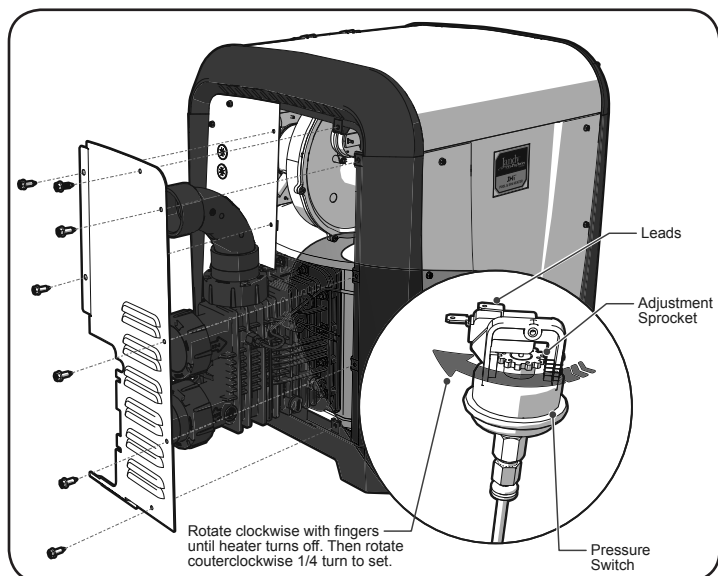

Figure 11. Water Pressure Switch Adjustment
- Remove the side panel to gain access to the water pressure switch. See *Figure 11*.
- Slowly turn the pressure switch adjustment sprocket counterclockwise one-quarter turn. The heater should come back on. See *Figure 11*.